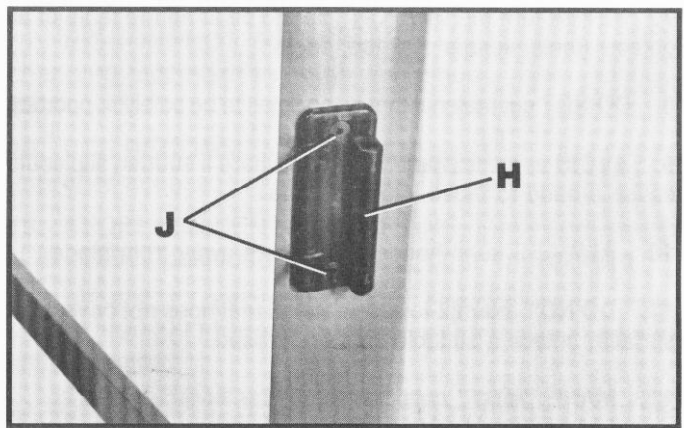

Fig. 6
5. Line up the holes in right front leg with the two holes in blade wrench holder (H) Fig. 6, and fasten with two 3/8" long socket hex head screws (J) and hex nuts.